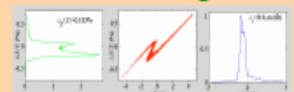

Fig. 6: Energy spread and bunch length in ESA.
Fig. 6 shows results from a simulation using LITTrack of the (correlated) energy and bunch length distributions in ESA. The bunch charge is 2.0×10^{10} electrons. The beam energy, energy spread and bunch length at i) Damping Ring (DR) exit, ii) after Ring-to-Linac (RTL) bunch compressor, iii) end of Linac and iv) ESA are shown in Table 1.